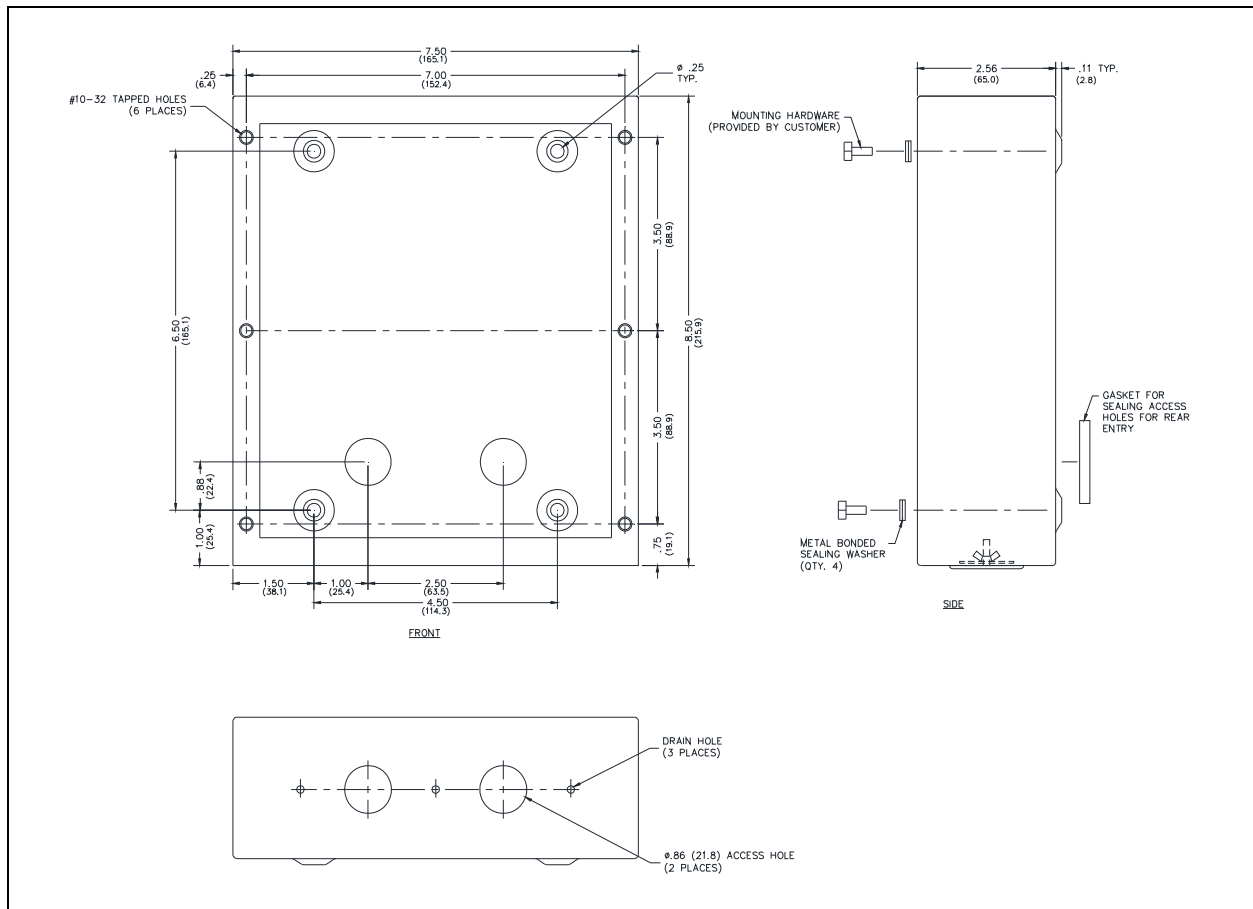

Figure 1. Model 238-001 Surface-Mount Enclosure Outline Drawing
4. Mount the enclosure on a flat wall surface using the four ¼-inch (0.25 in) diameter mounting holes (see Figure 1).